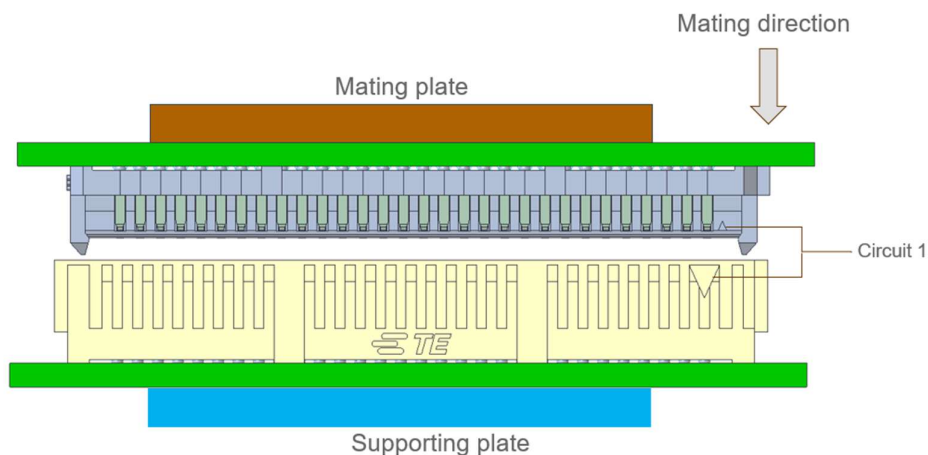

Figure 12
- Flat mating plate (customer supply) is required and applied on the opposite of mezz board during mating, see Figure 12.